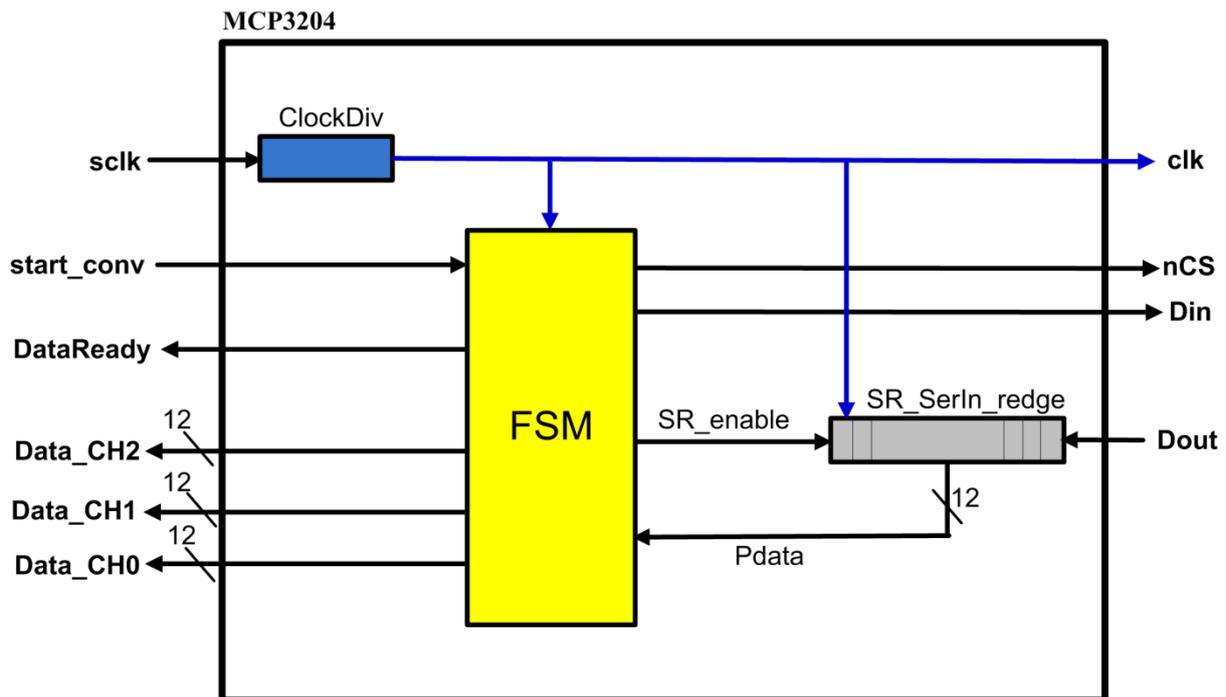

Figure 3
A block diagram of the ADC controller implementation is shown in Figure 3. The data from the ADC, which has been read into the serial-in-parallel-out shift register called **SR\_SerIn\_redge** (see Figure 3) can be routed to the parallel data outputs of the controller in the following way (in a state in the FSM):
6. Create a VHDL file called **MCP3204.vhd** and write the code for the ADC controller, based on your ASM chart and the block diagram in Figure 3. Include the serial shift register **SR\_SerIn\_redge.vhd** and the clock divider **ClockDiv.vhd** as components in your design.
- ASM chart for the state machine (the yellow component in the block diagram of Figure 3)